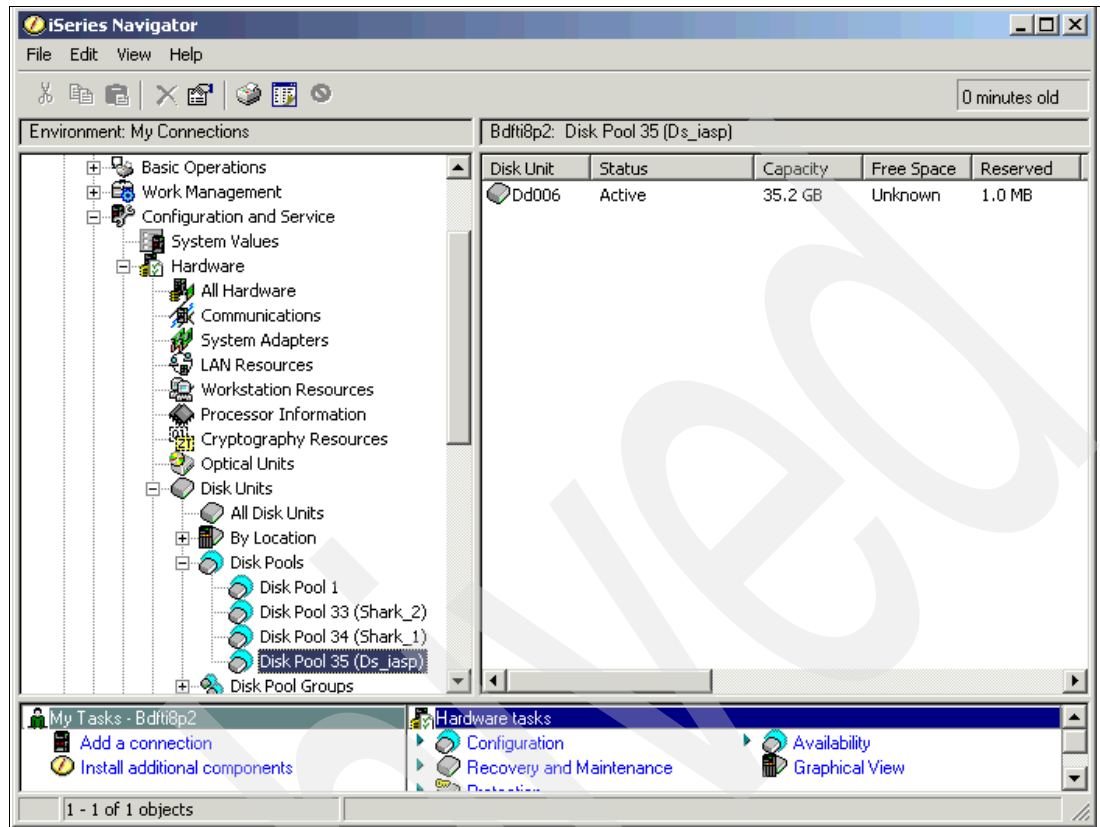

Figure 5-36 New logical volume in iSeries Navigator
15. To see the logical volume, expand **Configuration and Service** → **Hardware** → **Disk Pools** and select the disk pool that you just created. See Figure 5-36.